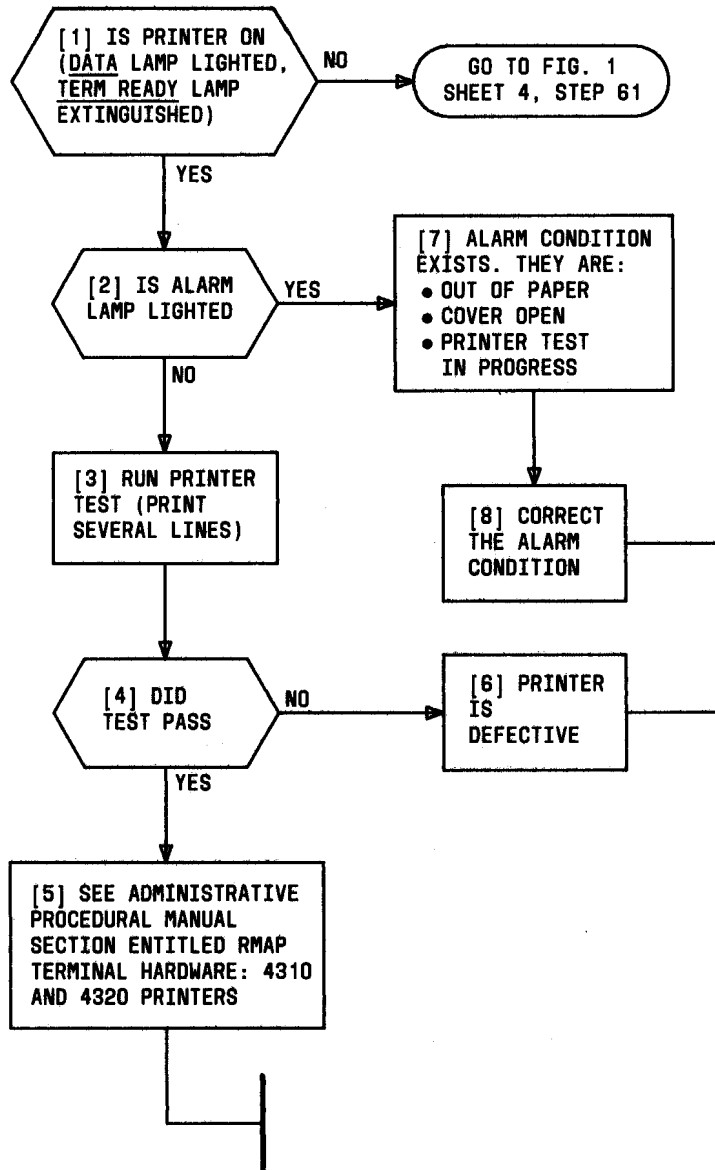

Fig. 3—Procedure for Isolating Printer Failures
- Part 5 and Fig. 3 isolate failures in the ROP.
5.03 Procedures for isolating failures in the teleprinter are shown in Fig. 3.